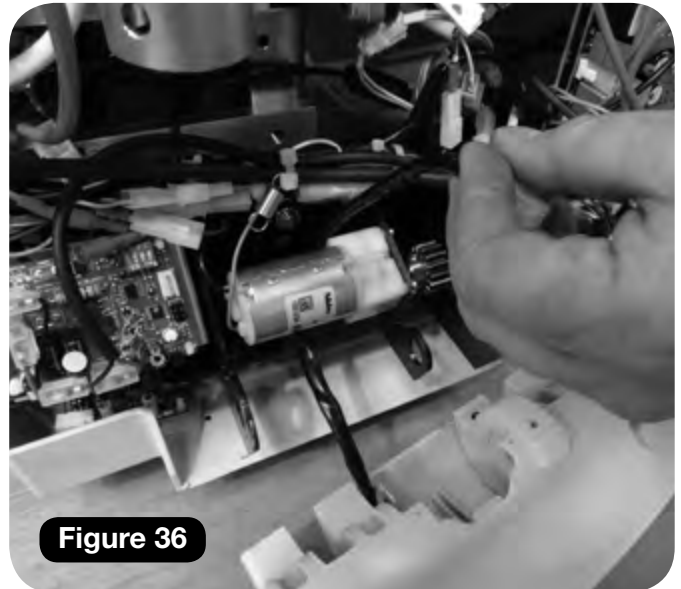

Figure 36
- b Feed the footplate loom and spring around the back of the motor (**Figure 36**).